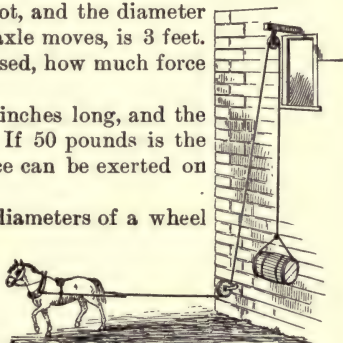

FIG. 29. — Simple pulley system.
4. Two single fixed pulleys are used to raise a barrel of flour, as shown in figure 29. If a barrel of flour weighs 200 pounds, how much does the horse have to pull?